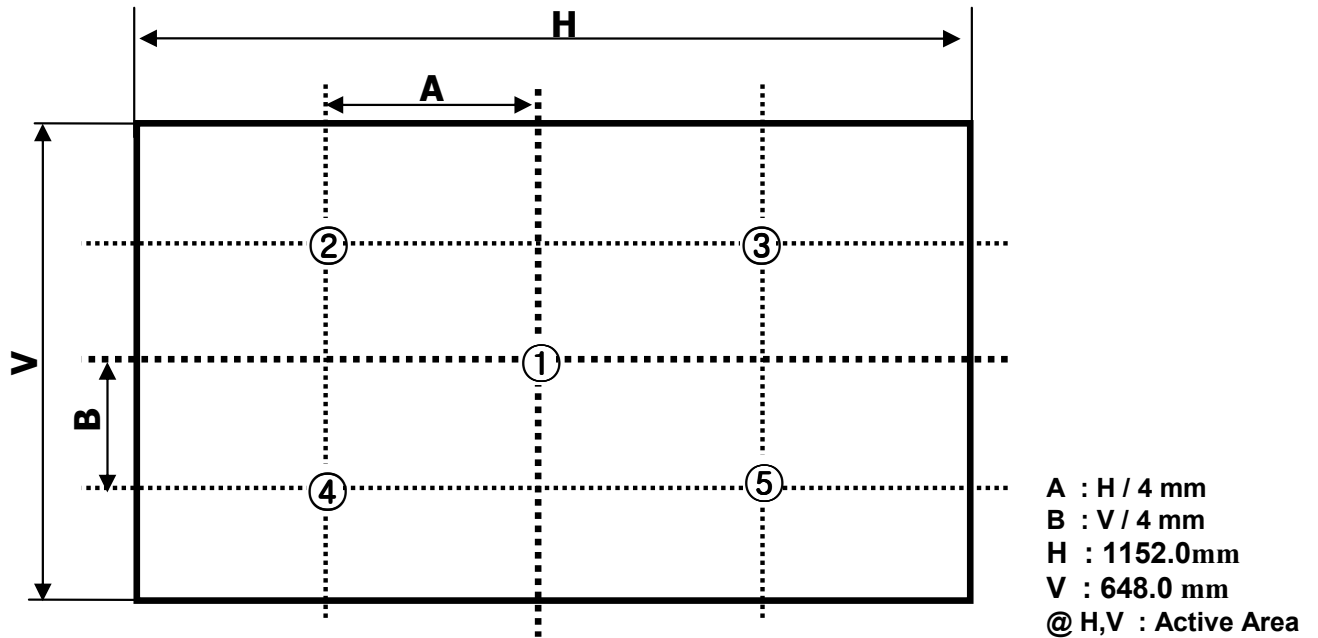

FIG. 2 Measure Point for Luminance
n = the Position number(1, 2, 3, 4, 5). For more information, see FIG 2.
2. Surface luminance are determined after the unit has been 'ON' and 30min after lighting the backlight in a dark environment at  $25 \pm 2^\circ\text{C}$ . Surface luminance is the luminance value at center 1-point across the LCD surface 50cm from the surface with all pixels displaying white. For more information see the FIG. 2.
For more information, see the FIG. 2.